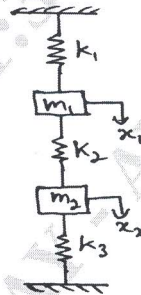

Fig Q8(b)
b. For the system shown in Fig Q8(b),